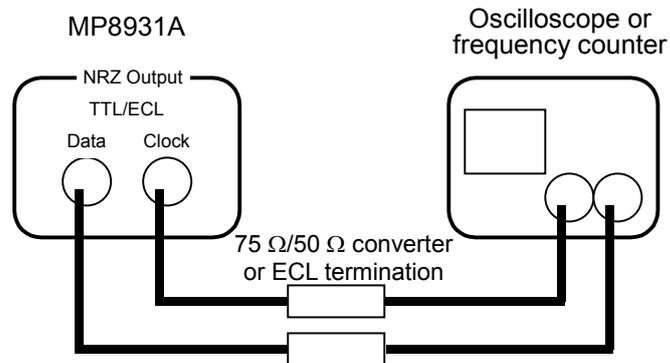

Fig. 6.4.1-1 Setup for NRZ interface output level test
1. Set up the equipment as shown in Fig. 6.4.1-1.